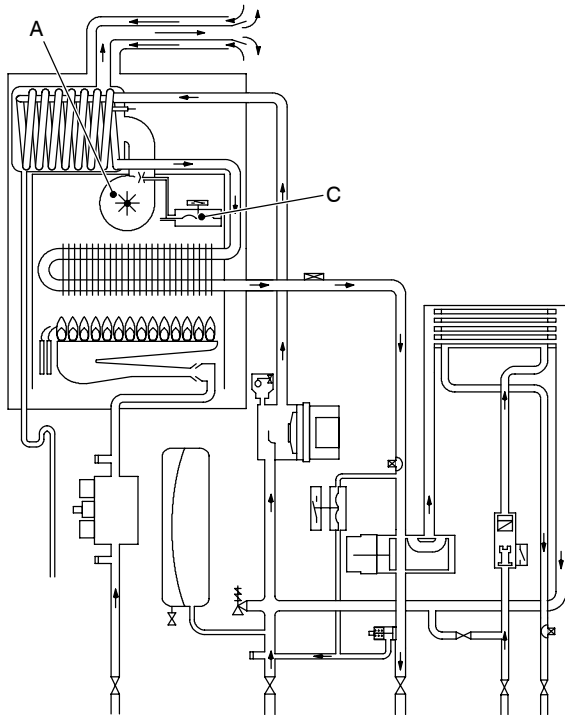
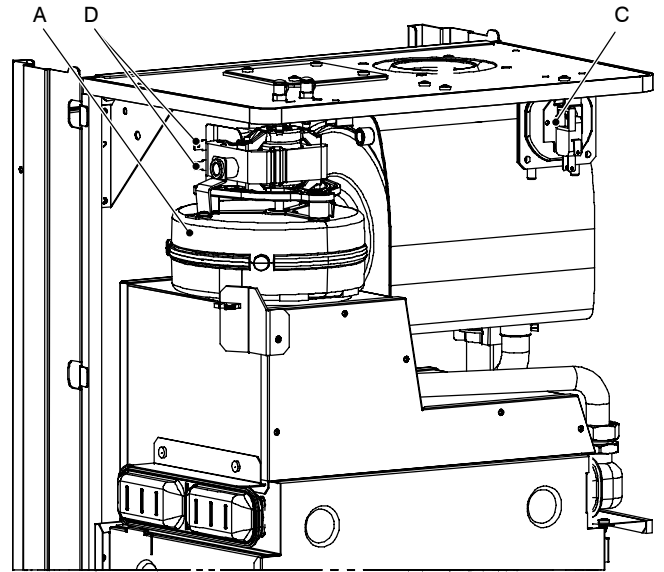
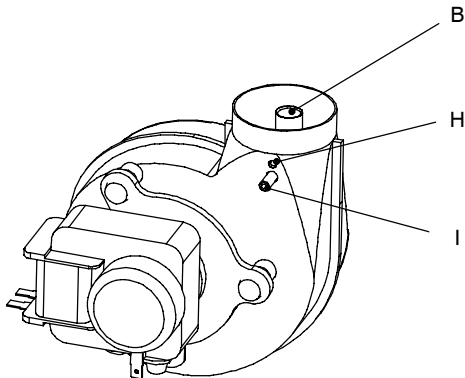

Fig. 74
Fig. 75
Fig. 80
The function of the Fan A (Fig. 74 and Fig. 75) is to force the products of combustion through the condensing heat exchanger to the outside air via the flue system.
Its correct functioning is controlled by means of a system incorporating a built in venturi device (B in Fig. 80) and an Air pressure switch C (Fig. 74 and Fig. 75) .
- 2 Disconnect the connectors D (Fig. 75) and measure the electrical resistance of the motor that has to be about:
- 2 Disconnect the connectors *D* and the earth connection *E* (Fig. 75).